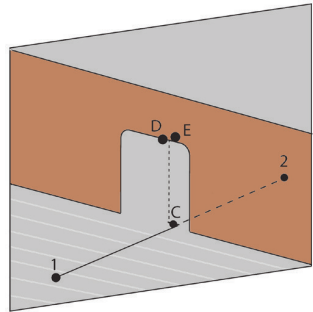

Figure 14
6. If the distance D to E  $< 1/16''$  for a 10' doorway, your plumb accuracy is within specification. (Figure 14)